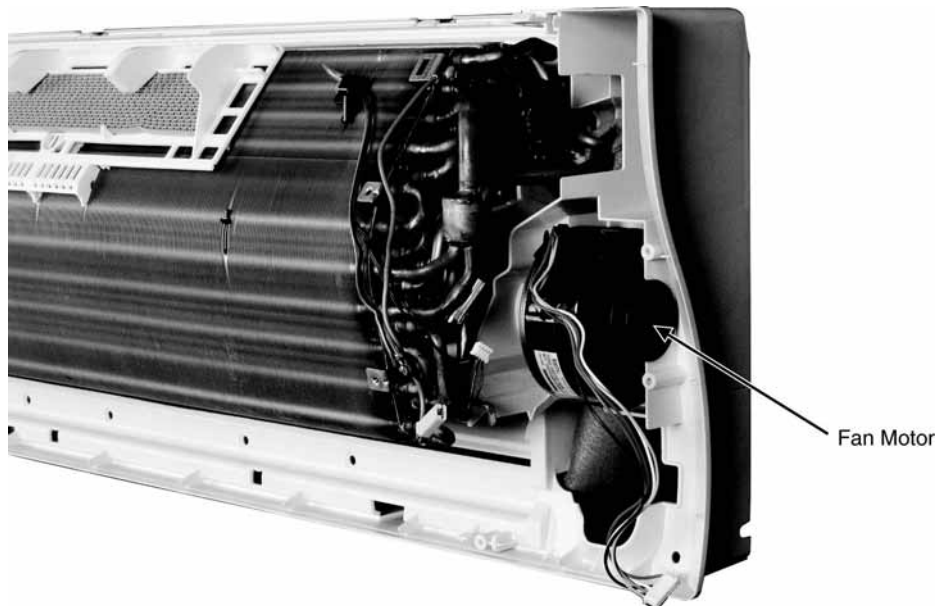

Fig. 15
11. Pull out the Fan Motor. (Fig.15)